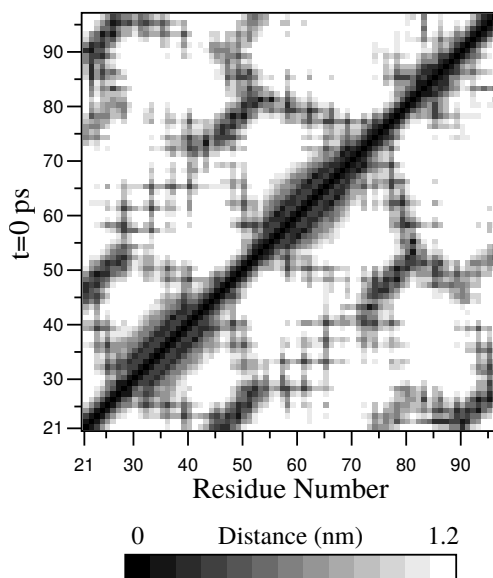

Fig. 5.57: A minimum distance matrix for a peptide *168* (page 518).
- To monitor the *minimum distances between amino acid residues* within a (protein) molecule, you can use the program *gmx mdmat* (page 111). This minimum distance between two residues  $A_i$  and  $A_j$  is defined as the smallest distance between any pair of atoms ( $i \in A_i, j \in A_j$ ). The output is a symmetrical matrix of smallest distances between all residues. To visualize this matrix, you can use a program such as *xv*. If you want to view the axes and legend or if you want to print the matrix, you can convert it with *xpm2ps* (page 181) into a Postscript Fig. 5.57.